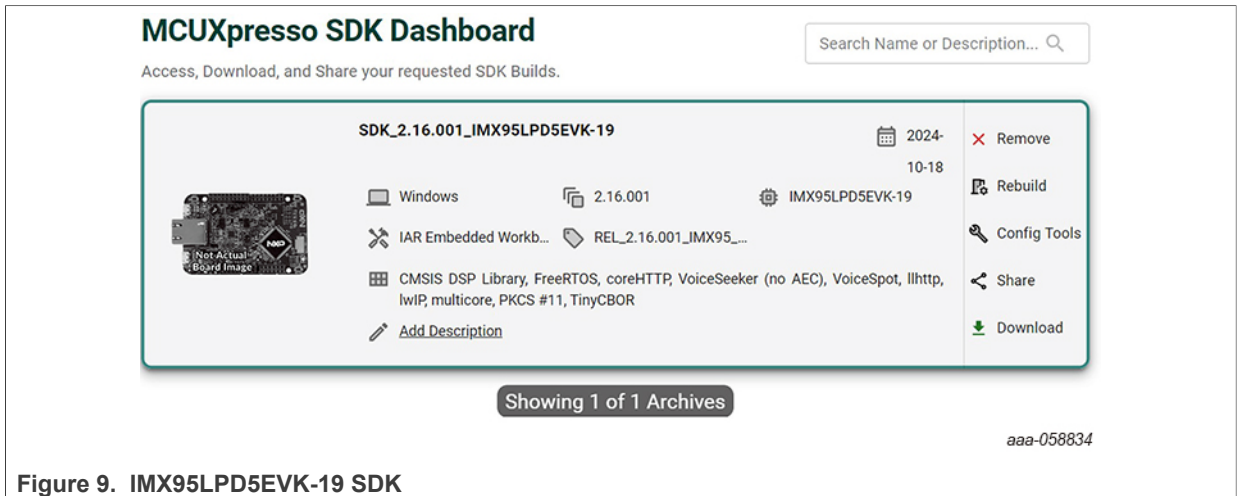

Figure 9. IMX95LPD5EVK-19 SDK
- e. Click the **BUILD SDK** button, and the MCUXpresso SDK is built as shown in Figure 9.